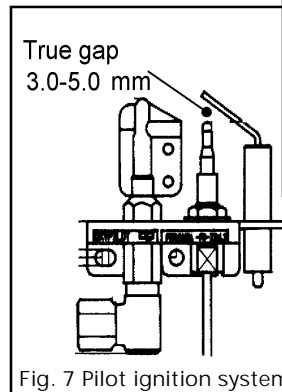

Fig. 7 Pilot ignition system
Sparks should be seen tracking from the electrode pin to the thermocouple tip (see figure 7).
- Check spark gap between electrode wire and thermocouple tip (see figure 7).